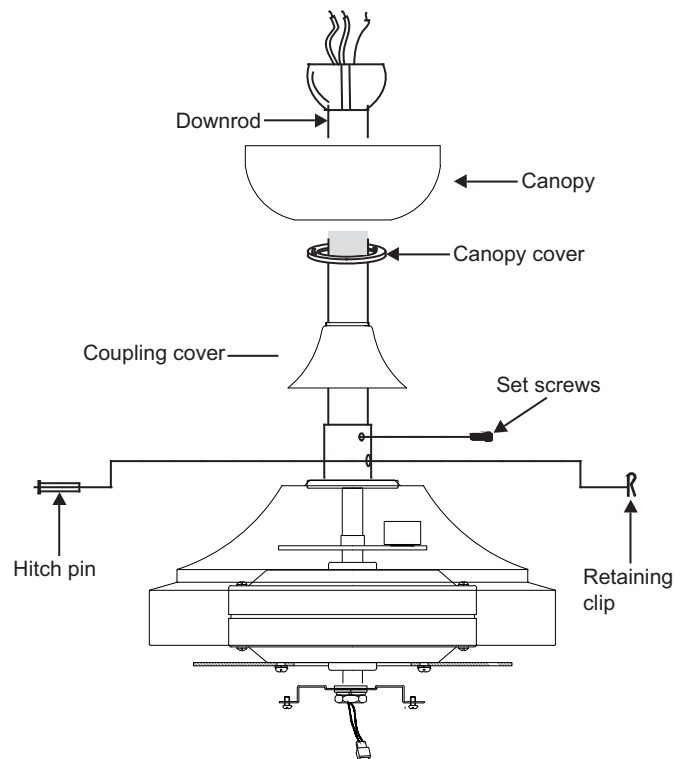

Fig 9
Step 4. Route wires exiting from the top of the fan motor through the canopy and then through the ball/downrod.(Fig 9)
Step 5. Align the holes at the bottom of the downrod with the holes in the collar on top of the motor housing (fig.9).Carefully insert the hitch pin through the holes in the collar and downrod. Be careful not to jam the pin against the wiring inside the downrod. Insert the locking pin through the hole near the end of the hitch pin until it snaps into its locked position, as noted in the circle inset of Fig.9.
Step 6. Tighten two set screws on top of the fan motor firmly.(Fig.9)